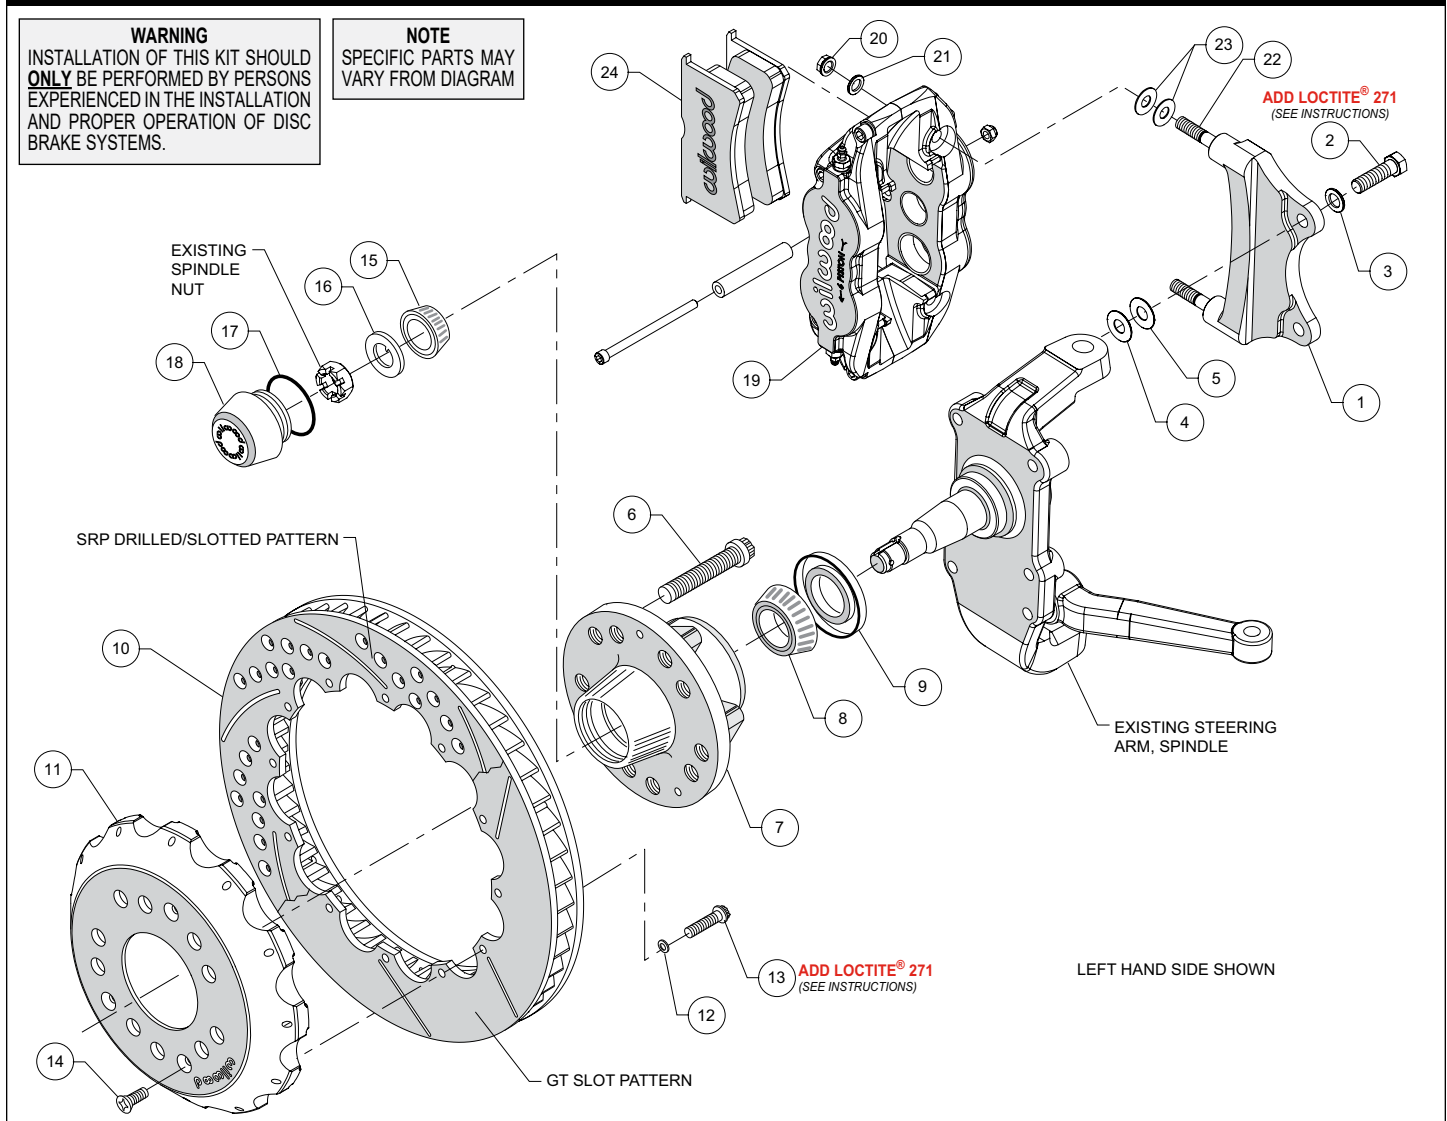
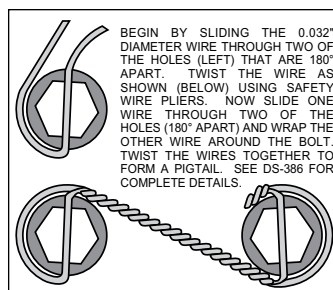

Figure 1. Typical Installation Configuration
Figure 3. Safety Wire Diagram
Assembly Instructions (numbers in parenthesis refer to the parts list on the preceding page, and Figure 1):
- The caliper mount bracket (1) should initially be installed with clean, dry threads on the mounting bolts. Orient the bracket as shown in Figure 1, and install using bolts (2) and washers (3). Initially place one each .016" thick shim (4) and .030" thick shim (5) on each bolt between the bracket and upright, Figure 1 and Photo 1. Temporarily tighten the mounting bolts. **NOTE:** *The bracket must fit squarely against the mount bosses on the upright.* Inspect for interference from casting irregularities, machining ridges, burrs, etc. Later, after the caliper alignment has been checked, the mount bolts will be secured using red *Loctite*® 271.
- Pack the large inner bearing cone (8) with high temperature disc brake bearing grease (available from your local auto parts store) and install into the backside of the hub (7), Photo 3.
- Install the grease seal (9) by pressing into the backside of the hub (7), flush with the end of the hub, Photo 3.
- Orient the rotor (10) and the hat (11) as shown in Figure 1 and Photo 4. Attach rotor to hat using bolts (13) and washers (12). Apply red *Loctite*® 271 to the bolt threads and torque to 155 **in-lb** using a criss-cross pattern. For an added measure of security, the bolts may be safety wired using standard 0.032 inch diameter stainless steel safety wire as shown in Figure 3. Refer to Wilwood's data sheet DS-386 (available at www.wilwood.com/Pdf/DataSheets/ds386.pdf) for complete safety wire installation instructions.
- Slide the hat/rotor assembly (10/11) onto the hub (7) taking care to align the small countersunk holes in the hat (11) with the small threaded holes in the hub. **NOTE:** The hat must fit flush against the hub face or excessive rotor run out may result. Install three flat head screws (14) through the small holes in the hat (11), Photo 6, and torque to 85 in-lb.
- NOTE:** This kit contains distinct right and left hand calipers that must be mounted in a specific direction, as described below. Initially place two .035" thick shims (23) on each stud (22) between the caliper and the bracket, as shown in Figure 1 and Photo 7. Mount the caliper (19) onto the bracket (1) using lock nuts (20) and washers (21), Figure 1. Ensure that the caliper is mounted so the largest pistons are at the rotor exit end of the caliper, in relation to the direction of rotor rotation. Temporarily tighten the lock nuts and view the rotor through the top opening of the caliper. The rotor should be centered in the caliper, Photo 8. If not, adjust by adding or subtracting shims (4 and/or 5) between the bracket and the upright. Always use the same amount of shims on each of the two mounting bolts. Once the caliper alignment is correct, remove the bracket mounting bolts one at a time, apply red *Loctite*® 271 to the threads, and torque to 55 ft-lb.